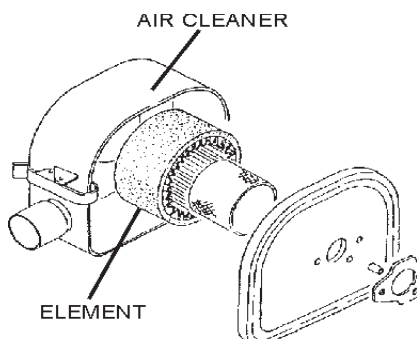

Figure 14. Air Cleaner
- The air cleaner (Figure 14) on the engine side will hardly be contaminated, if it is, however after cleaning the element with kerosene, dip it in mixed oil consisting of 3 parts of gasoline and 1 part of engine oil. Then tightly squeeze outer primary element (sponge) and shake off well the inner secondary element before installing them.